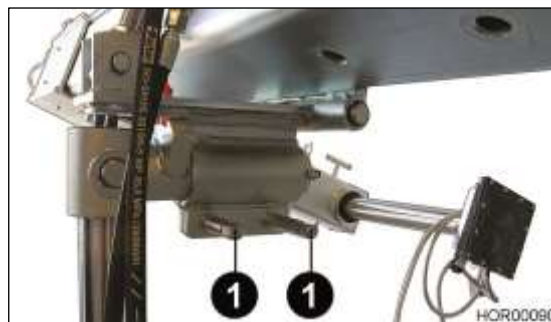

Bild 27 Inclining mechanism
- Use the square socket wrench to slightly open the clamping screw (Bild 27/1).